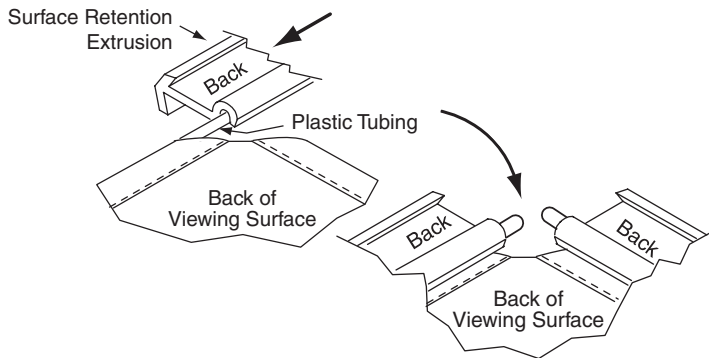

Figure 9
- ③ **Carefully** slide surface retention extrusion (rounded edge visible) along hem and onto surface on all 4 edges of fabric (see Fig. 9). **Caution: Do not allow fabric to snag on end of extrusion. If the screen fabric is not parallel with the surface retention extrusion, then it may slit and tear during installation.**